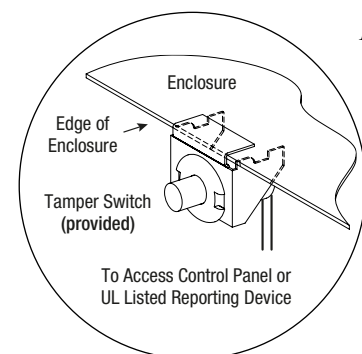

Fig. 1
3. Mount included UL Listed tamper switch(es) (Altronix Model TS112 or equivalent) in desired location, opposite hinge. Slide the tamper switch bracket onto the edge of the enclosure approximately 2" from the right side (*Fig. 1, pg. 2*).